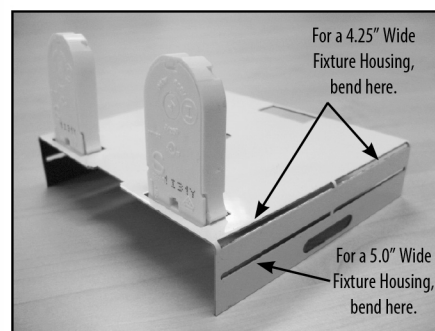

Figure 2. Bend the tabs on the Fixture Bracket Socket Plates 90 degrees.
5. Bend the flexible tabs of all three sections of the Fixture Bracket Socket Plate approximately 90 degrees. See Figure 2.
NOTE: Check the width of the fixture housing! If the fixture housing is 4-inches wide, bend the socket plate as shown in Figure 2. If the Luminaire Housing is 5-inches wide, bend the Socket Plate at the next line, also shown in figure 2. Once bent, the Socket Plate should be just wide enough to wrap over the top of the fixture channel.